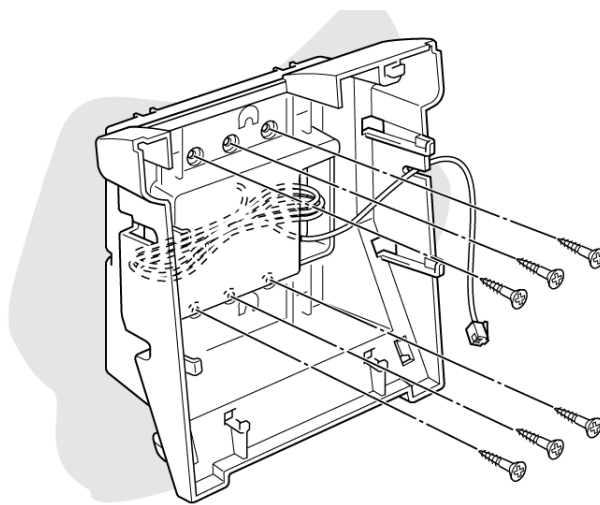

Figure 4-32: Attaching the Wall Mount Unit to the Wall
2. Feed the line cord through the opening in the wall mount unit as illustrated in *Figure 4-32: Attaching the Wall Mount Unit to the Wall*.